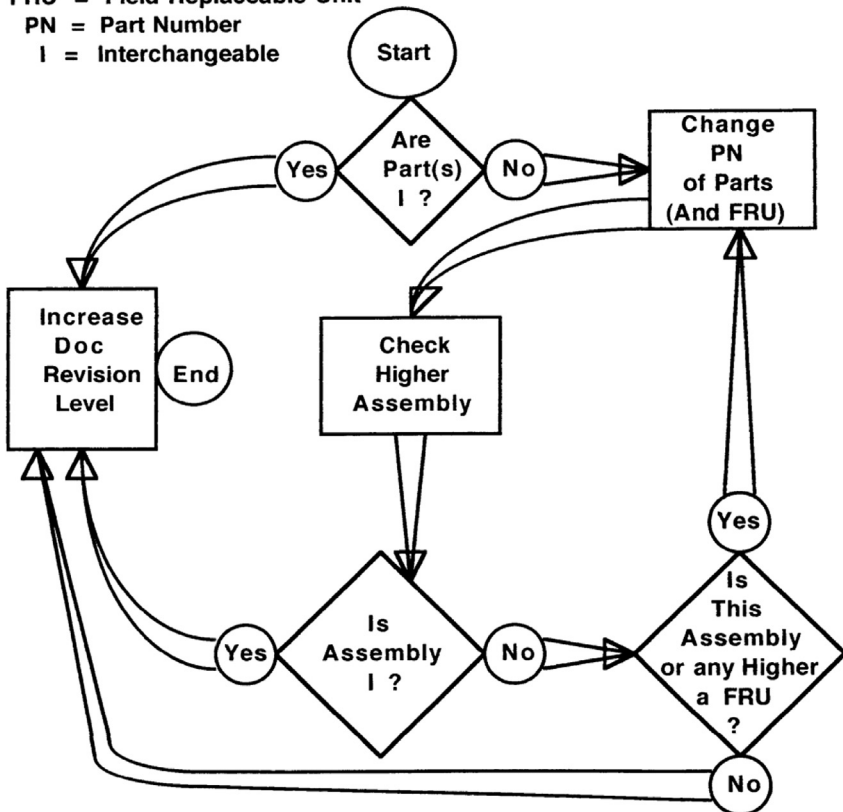

FIGURE 5.1 PN and Rev level change logic.
Upon noninterchangeable change (after release), the part number must change in one or more characters. And any time a document is changed after release, the revision level must increase—even for a redraw due to a coffee spill on the old vellums. The logic for part number and revision level that must be applied to each drawing or spec affected by a change is in Figure 5.1.
- **Whether part numbers or revision levels change** is determined by use of the part number/rev change logic diagram in Figure 5.1.